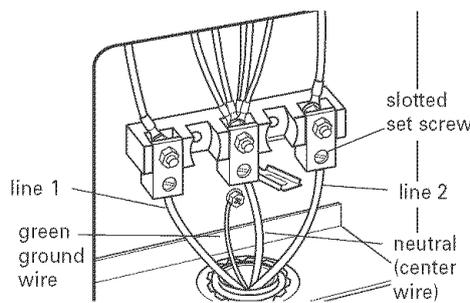

Figure 2
contact any other terminal. See Figure 2.
12. Loosen (do not remove) the 3 slotted set screws. Insert the neutral (white) wire into the hole at the bottom of the center position terminal lug (attached to center terminal screw black terminal block). See Figure 2.
14. Securely tighten the set screws. For 8 gauge copper wire, tighten to 25 in/lbs of torque, and for 6 gauge aluminum wire, tighten to 35 in/lbs of torque to make a proper electrical connection. See Figure 2.